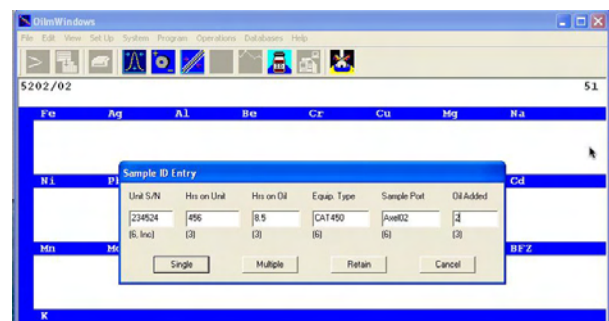

Figure 3-68, Sample ID Entry Screen
2. Enter the sample ID by clicking on the “ID” icon on the Analysis Program screen, or pressing function key “F3”. In the “Sample ID Entry screen, enter the fields corresponding to the file where the data is to be stored, and any other user selected fields. In our example, data will be stored by Unit S/N (Unit Serial Number) as shown in Figure 3-68. Select “Single” if you are analyzing samples manually (“Multiple” is for applications where a robotic is used to analyze samples). The sample ID will appear in the upper left of the Analysis Program Screen.